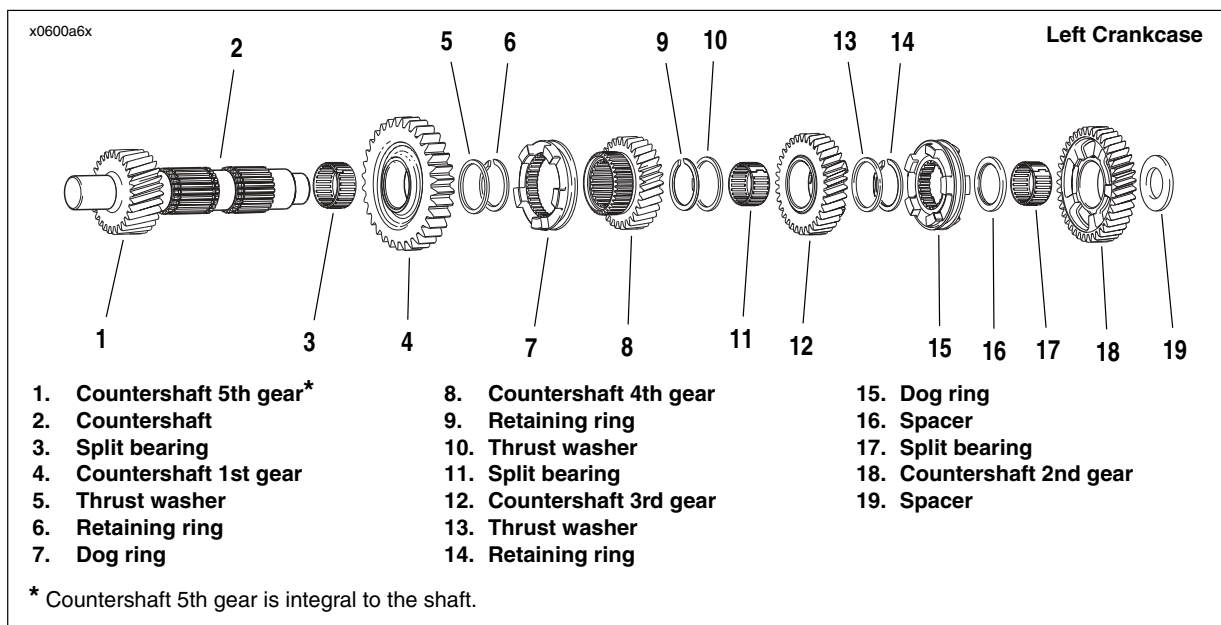

Figure 6-63. Transmission Countershaft Assembly Once Removed from Left Crankcase/Disassembly
- See Figure 6-63. Remove spacer (19) and 2nd gear (18) from the end of the of the countershaft (2). Remove and discard split bearing (17).
- Remove spacer (16).